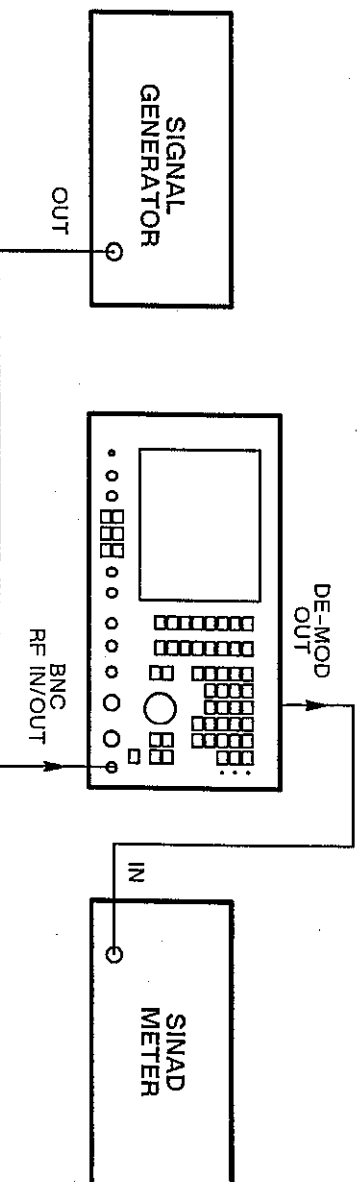

Fig. 6-29 Test equipment connections for 2955R sensitive receiver sensitivity
- (1) Connect the signal generator RF output to the RF IN/OUT BNC socket. Connect the SINAD meter input to the DE-MOD OUT socket. See Fig. 6-29.